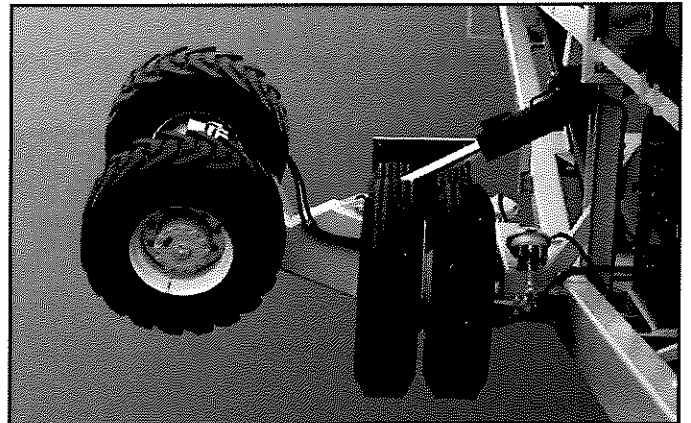

Figure 105
11. Raise the radial travel wheels completely (**Figure 105**).